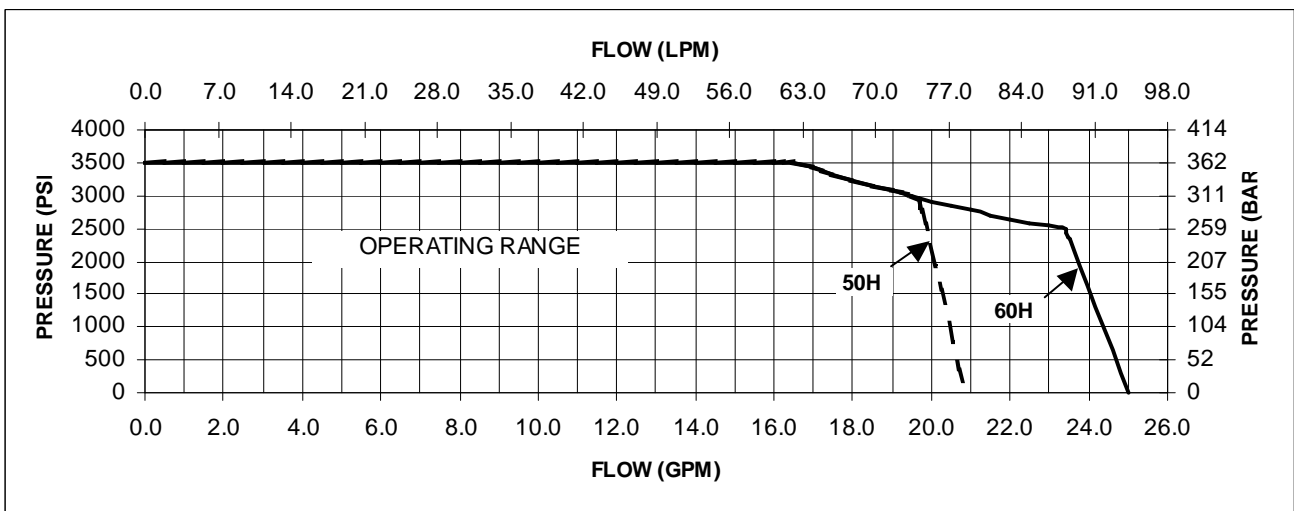

FIGURE 5.2.3 – Performance Curve (50 Hz and 60 Hz)
- Performance Curve for 50 Hz and 60 Hz Reference **Figure 5.2.3**